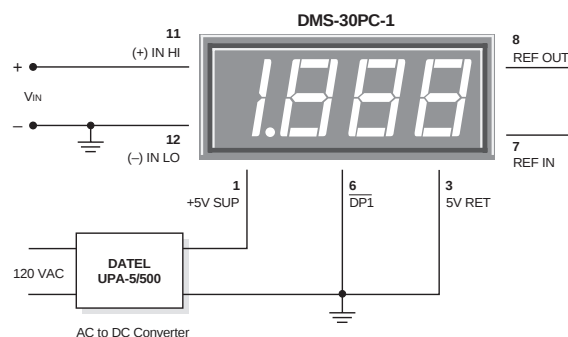

Figure 2. Single-Ended Input Configuration
1. **Single-Ended Input Configurations:** True single-ended measurements can be made with any DMS-30PC meter. The circuit of Figure 2 avoids problems normally associated with ground-loop currents. Separate ground runs should be used for 5V RETURN (pin 3) and (–) INPUT LO (pin 12). This will ensure that large LED currents will not flow in the wiring that connects  $V_{IN}$  to (–) INPUT LO (pin 12). Ground-loop currents can cause unstable readings.